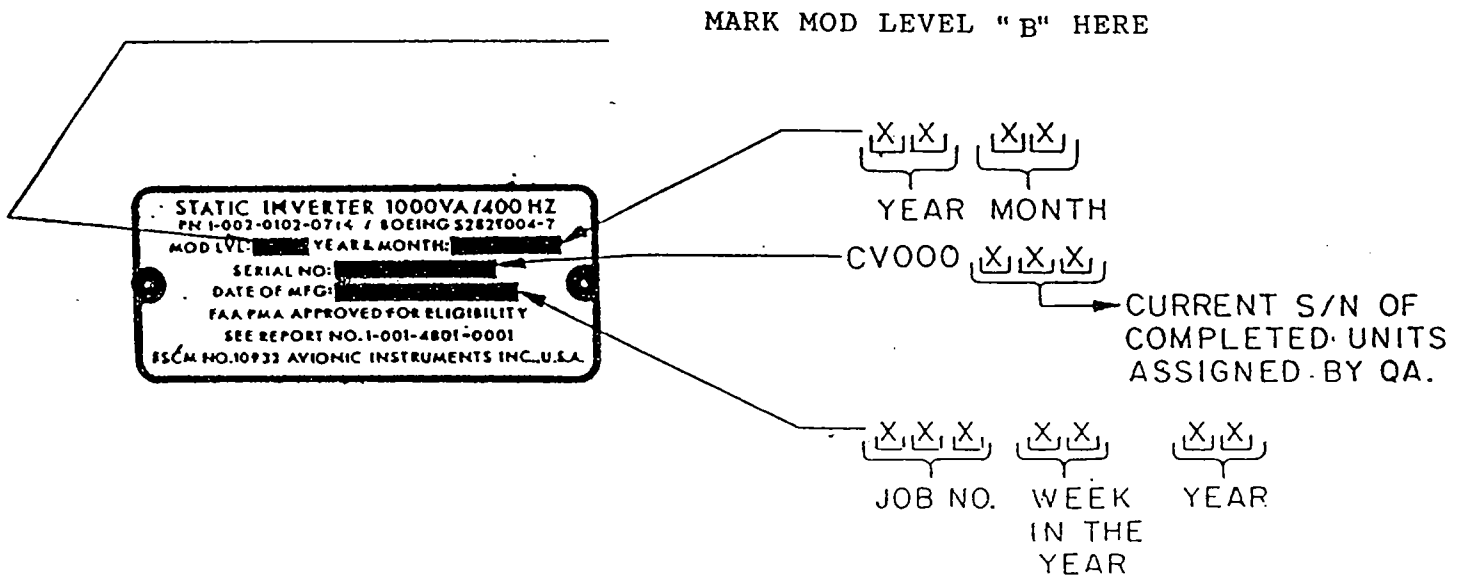

FIGURE 3
- 2.- Use the "B" metal stamp to reidentify the MOD LEVEL by stamping a "B" in the silver area next to the existing letter (See figure 3).